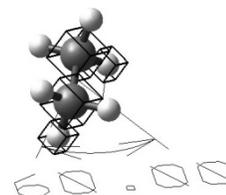

Figure 7
2. Add a dihedral angle jig, by selecting the atoms H-C-C-H, then clicking Simulation \rightarrow Measurements \rightarrow Measure Dihedral. The dihedral angle is the angle between the two planes defined by the four atoms (figure 7). The first plane is defined by H-C-C and the second plane by C-C-H. Record the angle.